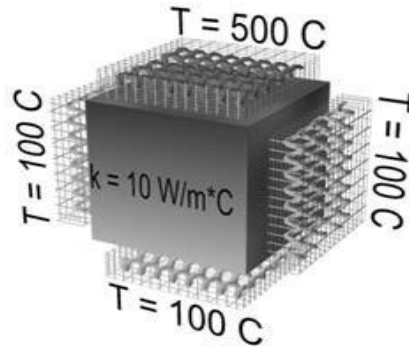

Figure 13
13. Perform a conduction analysis for temperature distribution on the block which is constrained as shown in the Figure 13. Thermal conductivity (k) of the material is $10 \text{ W/m}^\circ\text{C}$ and the block is assumed to be infinitely long.